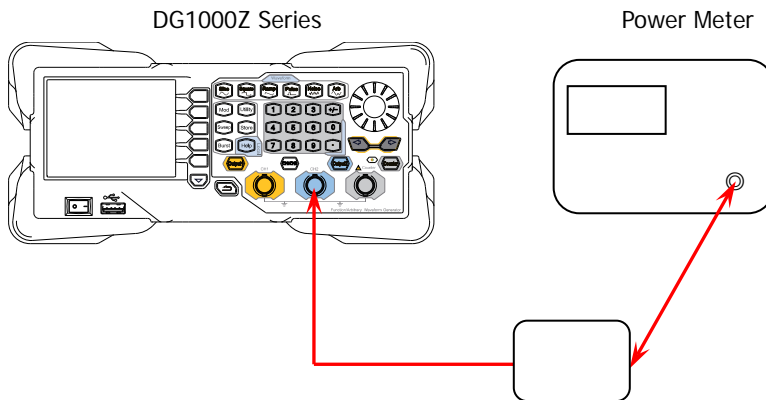

Figure 2-3 Connect DG1000Z and the Power Meter
6. Disconnect DG1000Z and the multimeter. Connect the power sensor and the channel output terminal (take CH1 as an example; the test method is also applicable to CH2) of DG1000Z using a BNC (f)-N (m) adaptor, as shown in Figure 2-3.